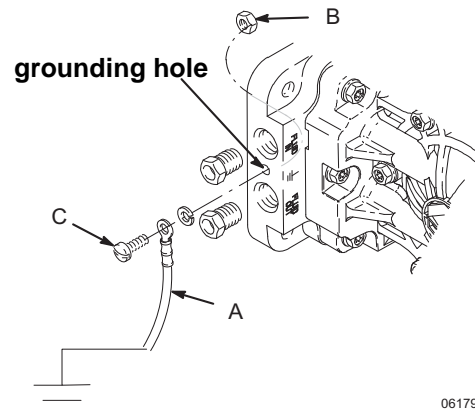

FIG. 1
The *polypropylene and PVDF pumps* are **not** conductive. When you pump conductive flammable fluids, **always** ground the entire fluid system. Make sure the fluid has an electrical path to a true earth ground, see FIG. 1. **Never** use a polypropylene or PVDF pump with non-conductive flammable fluids as specified by your local fire protection code.
**Pump:** Connect a ground wire (A) and clamp, Part No. 819.0157. See FIG. 1. The pump grounding locations are on the manifold between the inlet and outlet ports. Use the nut (B) and bolt (C) that are provided with the pump, and install as follows: